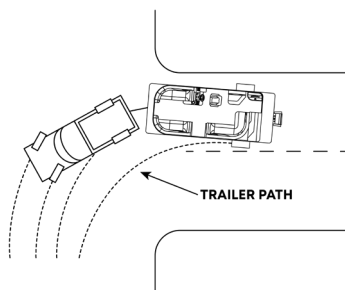

FIGURE 4-2 TURNING WITH TRAILER
6. Be aware that a turn for the trailer is wider than a turn for the tow vehicle (Figure 4-2). When making a turn, be careful that your trailer does not strike another vehicle or object.